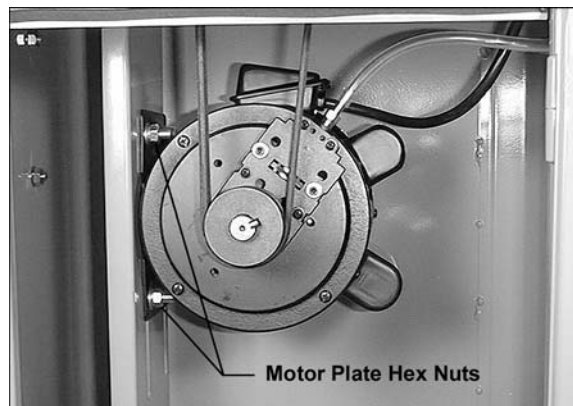

Figure 18
3. Open the lower door, and loosen the four hex nuts on the motor plate an equal amount, with a 1/2" wrench (see Figure 18). Lift up on the motor to provide slack for the drive belt installation.